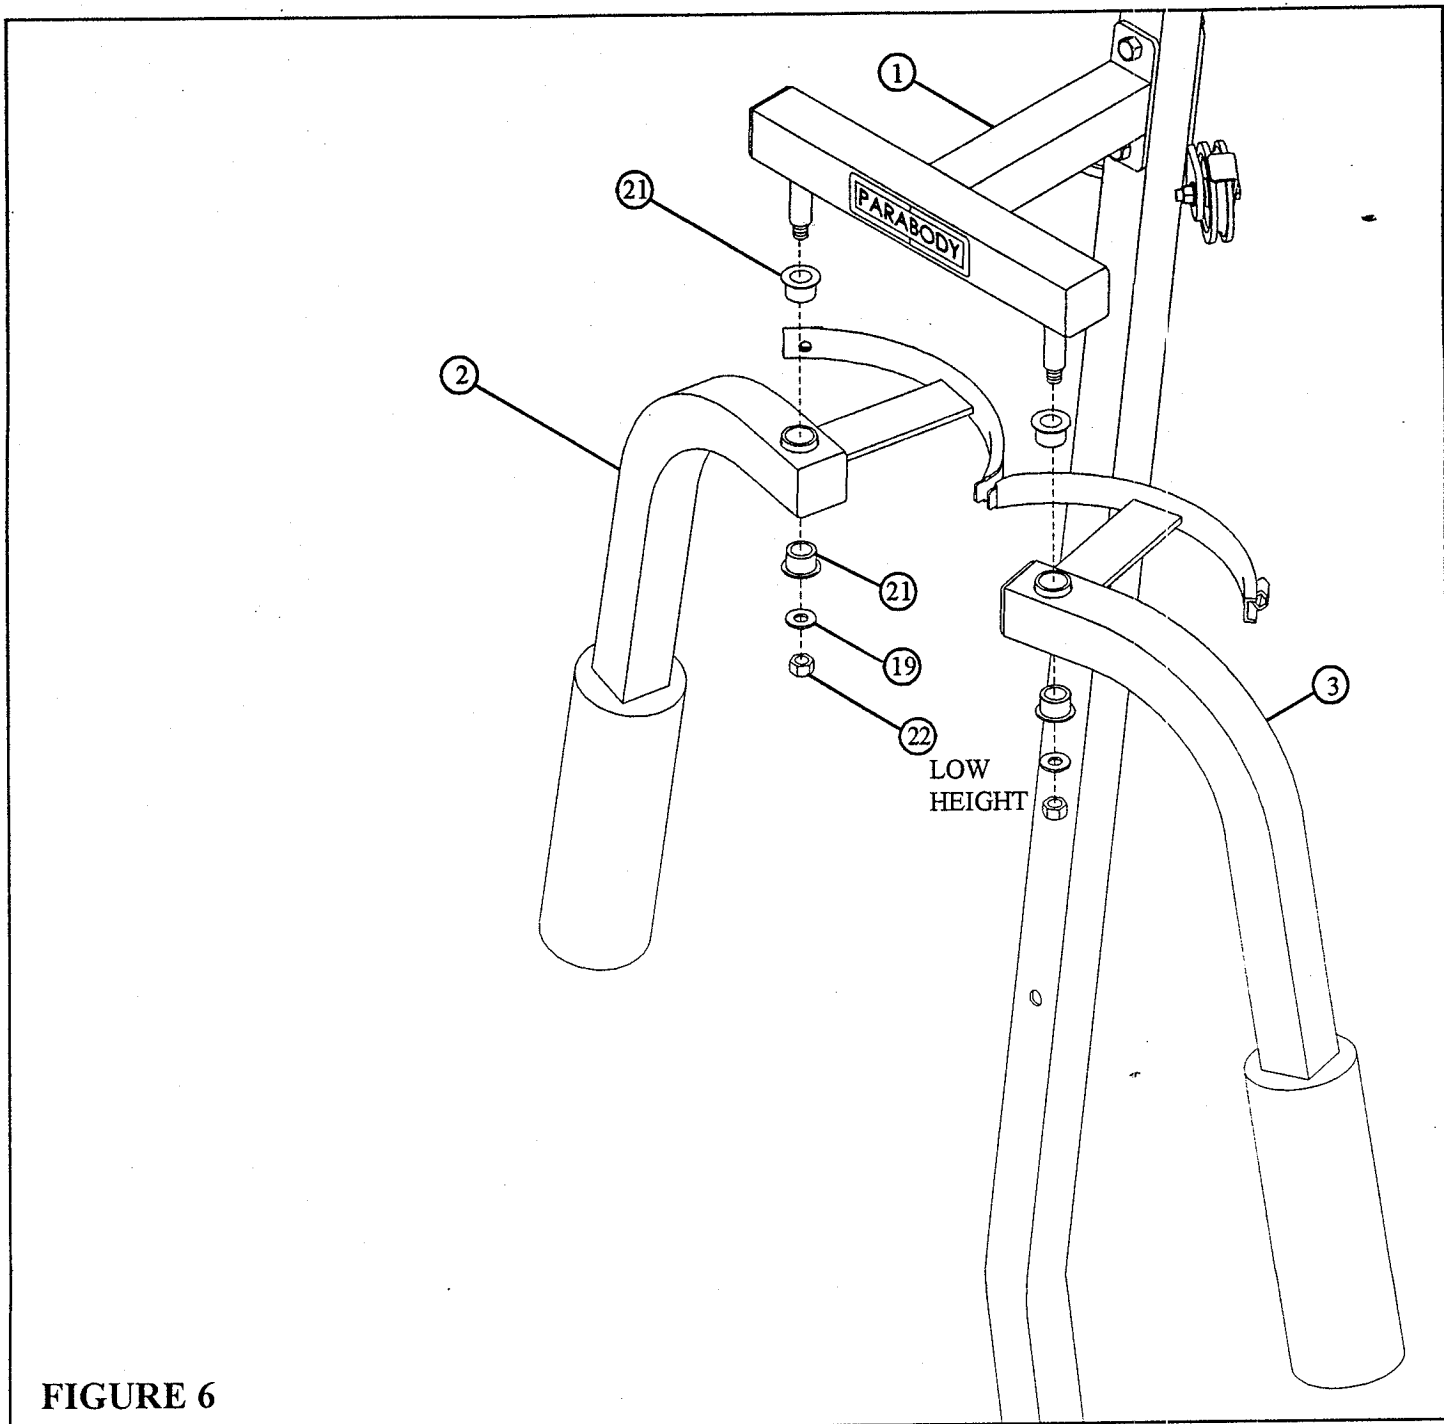

**FIGURE 5**
- **SECURELY** assemble the BEARING HOUSING (1) and the CENTER PULLEY BRACKET (4) to the UPRIGHT FRAME using two 1/2 X 3-1/4" BOLTS (16) and two 1/2" LOCKNUTS (20) as shown in FIGURE 5.